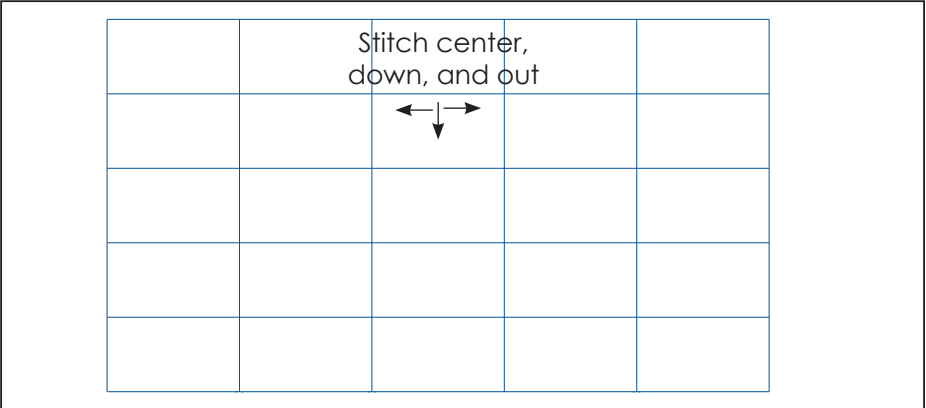

Figure 28: Stitch Panels Together
- 15. Continue to stitch panels together with stitch bolts center, down, and out. Tighten the M8 bolts to lock the panels in place. Refer to **Figure 28**.